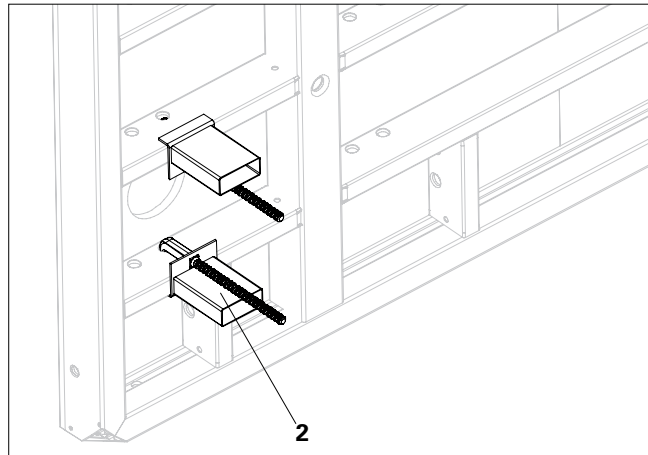
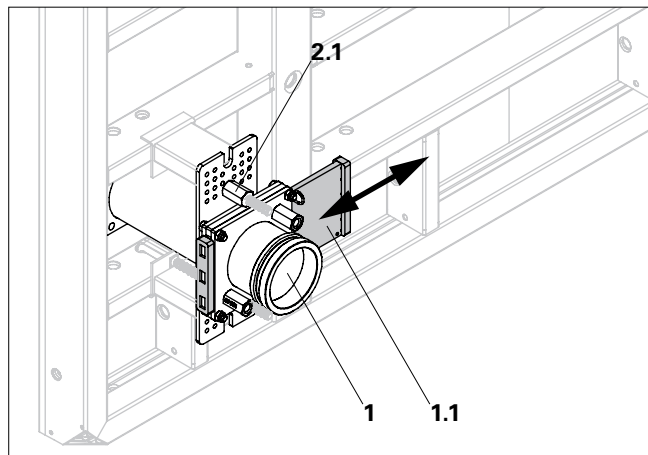

Fig. A.04
Fig. A.05
1. Attach the BPA Adapter TRIO (2) to the drilled holes on the struts. (Fig. A.04)
2. Mount Concrete Pump Connector BPA (1). The gate valve (1.1) must be able to move freely.
3. Secure Concrete Pump Connector with nuts, SW 30. (Fig. A.05)